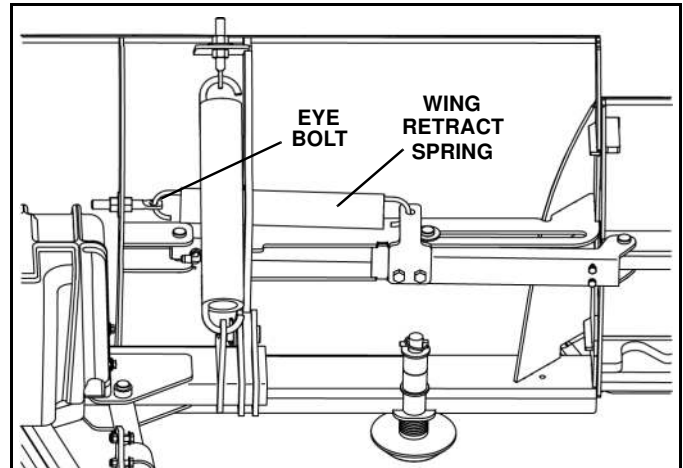

Figure 2-6
3. Install the retract spring to the wing bracket. Install the opposite end of the spring to the 5/8"-11 x 4-1/2" eye bolt on the blade frame. (See Figure 2-6)